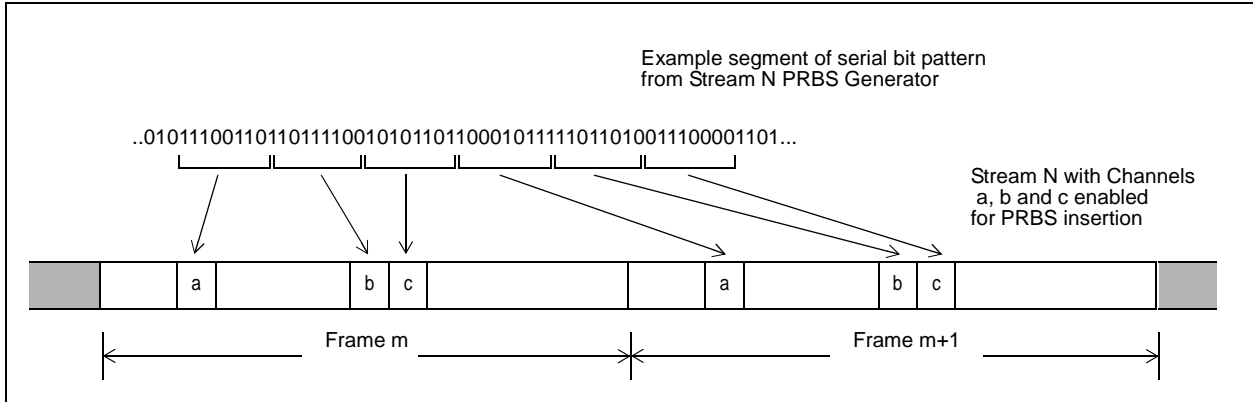

Figure 8 - Example PRBS Timeslot Insertion
The PRBS bit pattern is sequentially loaded into the output timeslots as shown in the following example, see Figure 8.
2. The arrival order of timeslots at the PRBS detector must be the same as the order in which timeslots were transmitted by the PRBS generator. For example, in Figure 8 above, the timeslot order a,b,c must be maintained through the external path from source TDM output stream to destination TDM input stream.